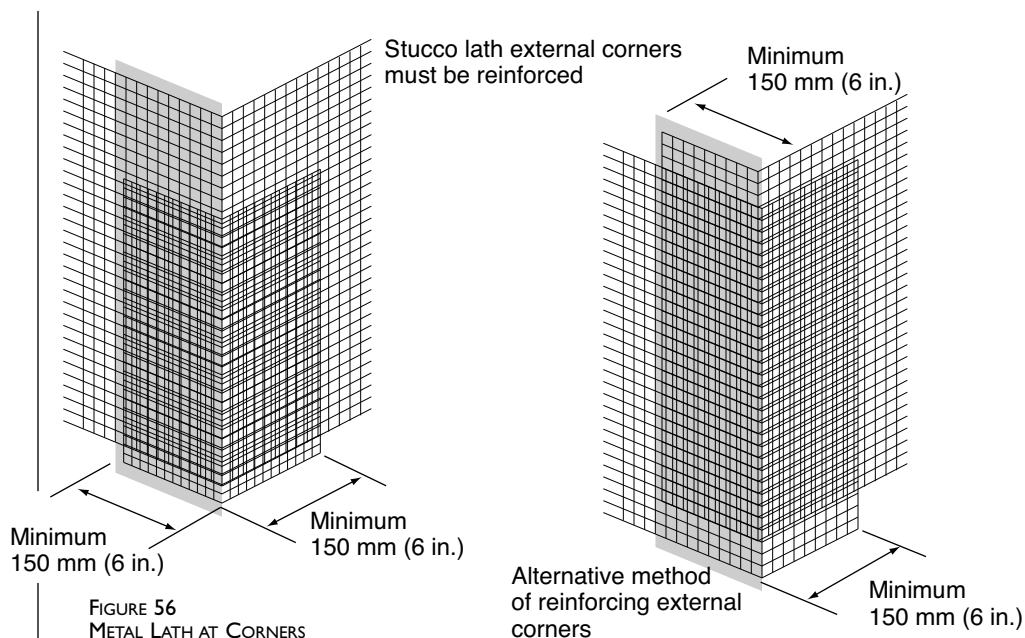

FIGURE 56
- ◆ Use a vertical strip of lath or reinforcement extending not less than 150 mm (6 in.) from either side of the corner. Alternatively, overlap lath at corners by a minimum of 150 mm (6 in.) (see Figure 56).